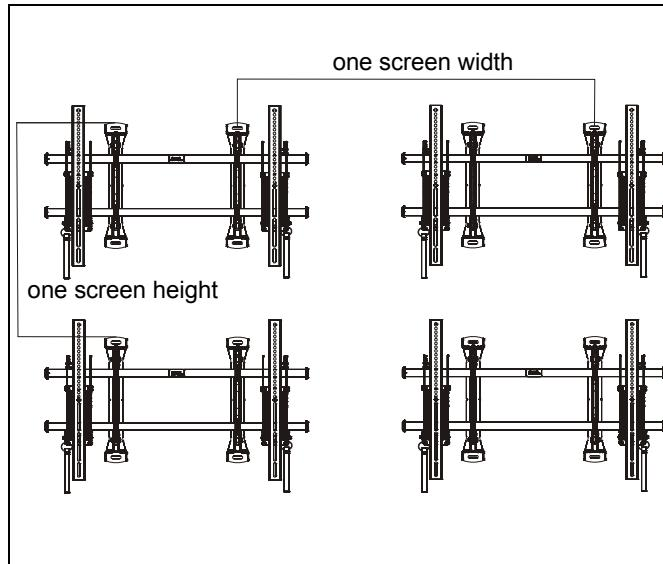

Figure 1
**IMPORTANT ! :** For video wall mounting, mounts should be installed one screen height apart vertically and approximately one screen width apart horizontally. (See Figure 1)